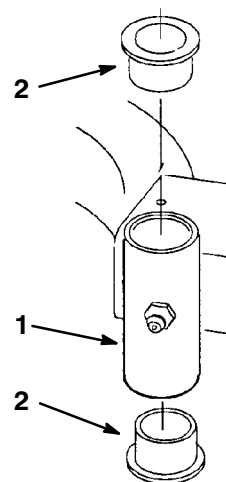

Figure 35
4. Insert a pin punch into the mounting tube and carefully drive out the bushings (Fig. 35). Clean the inside of the mounting tube.